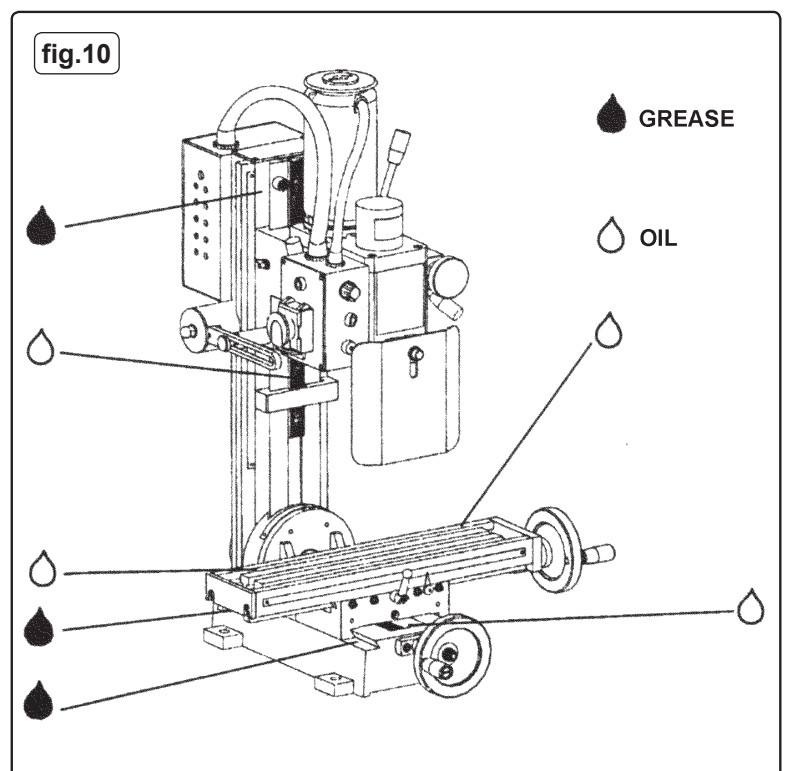

fig.10
- 6.1. Lubricate the machine before every use. See lubrication points on fig.10.